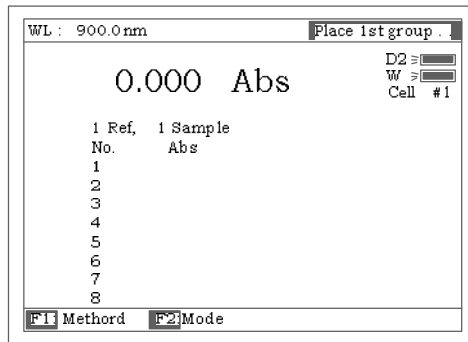
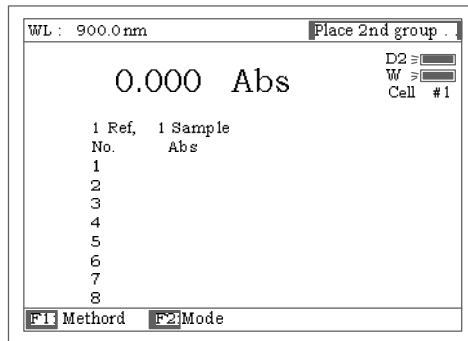

Fig 105
Fig 106
7. Press **START**, the screen display as Fig105, the "Place 1st group..." appear on the right of top line, Press **0Abs/100%T** , the 8 references are taken automatically and the screen change to Fig 106.